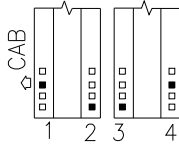

Fig. 4.
3. While standing on the template, use an 1/16" drill bit to mark the bed at each hole location shown in figure 4.